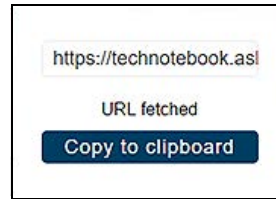

Figure 13-14
3. Select **Copy to Clipboard** (Figure 13-14) from the pop-up window.